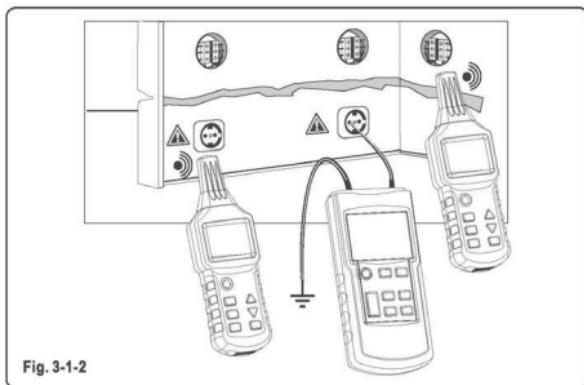

Fig. 3-1-2
- Connect the emitter to the line and to earth, following Fig. 3-1-2.